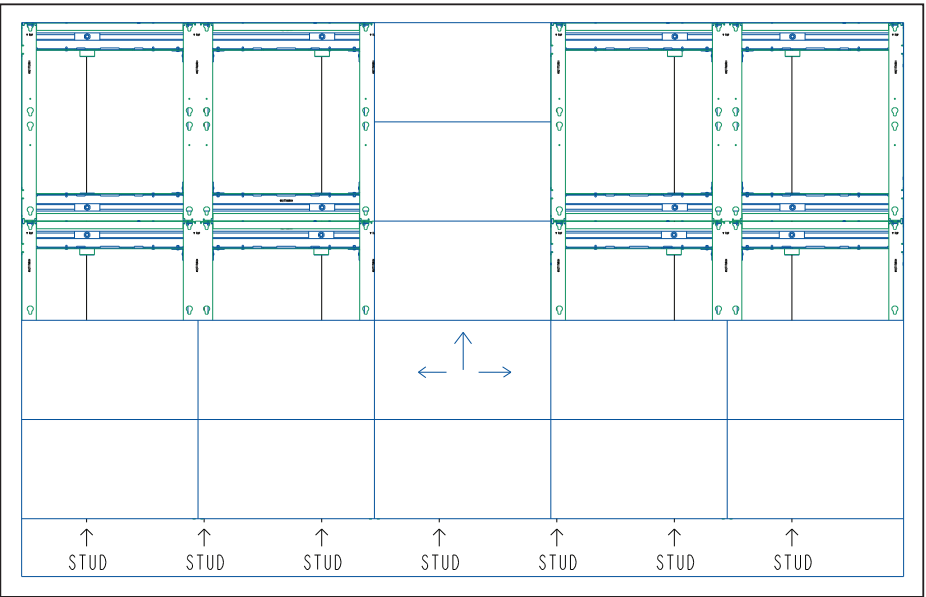

Figure 27: Install Remaining Panels in Display
11. Repeat **Steps 1–3** for the remaining panels in the display. Start at the center of the next row up, install the columns, and then fill in from the bottom out from there. Refer to **Figure 27**.